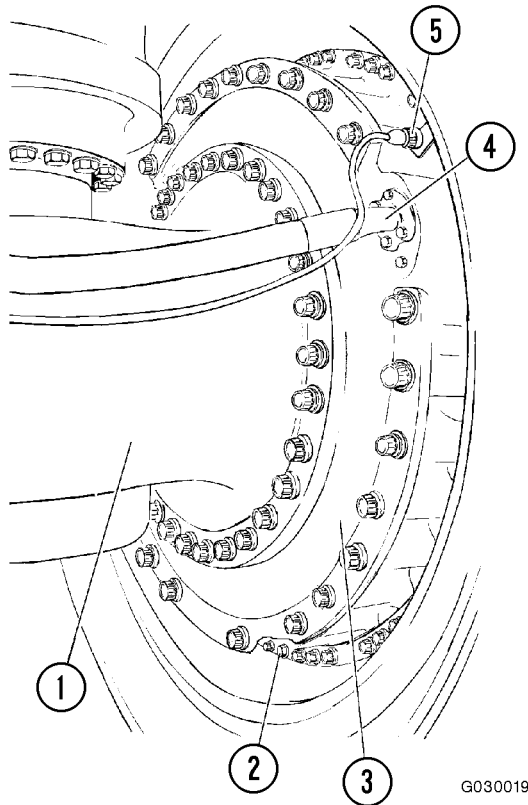

FIGURE 3-1. FRONT WHEEL & SPINDLE INSTALLATION
6. Disconnect speed sensor connector(s) (5, Figure 3-1). Tie the cables back away from the spindle to prevent damage during spindle removal.